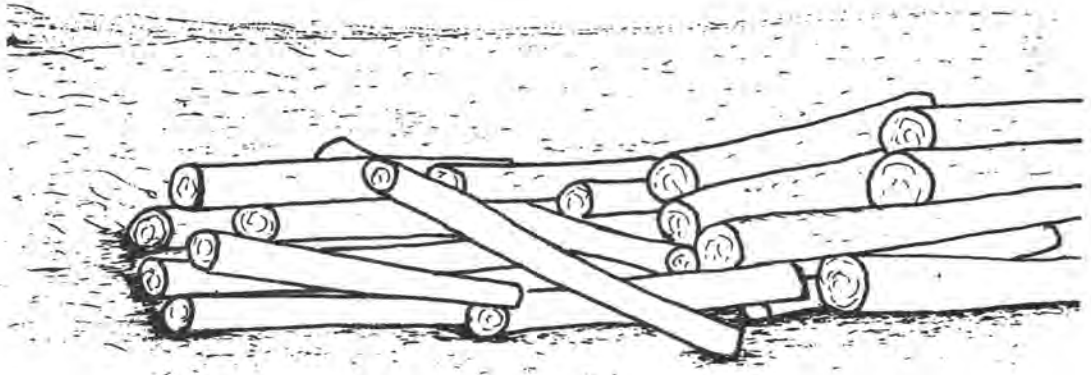

Figure 2.2: The ground is cleared and levelled before stacking the wood
2. Select the kiln site as close as possible to the wood supply where the vegetation is cleared and the ground is levelled (Figure 2.2).